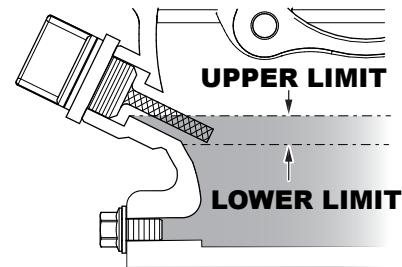

Figure 6. Engine Oil DipStick (Oil Level)
4. If the oil level is low (See Figure 6), fill to the edge of the oil filler hole with the recommended oil type (Table 6). Maximum oil capacity is 1.16 quarts (1.1 liters).